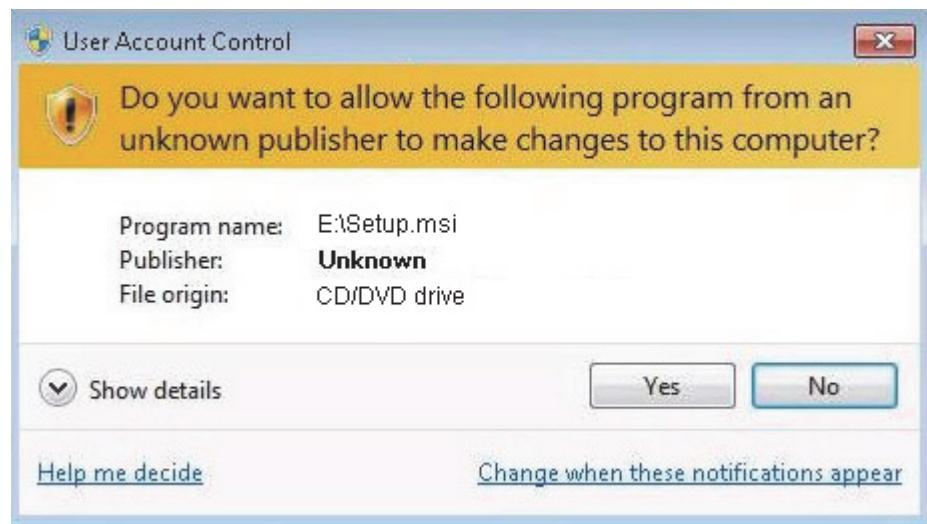

Figure 5-33. Selecting Yes, Make Changes To This Computer
6. Select **Yes** when prompted with “Do you want to allow the following program from an unknown publisher to make changes to this computer?” as shown in Figure 5-33.